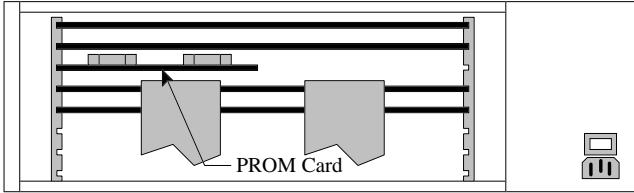

Figure 13 - PROM Card Location In Earlier VAX
4. Remove the PROM Card (see Figure 13) by pulling on the two tabs fastened to the front edge of the card. Once the card has disengaged the connector,